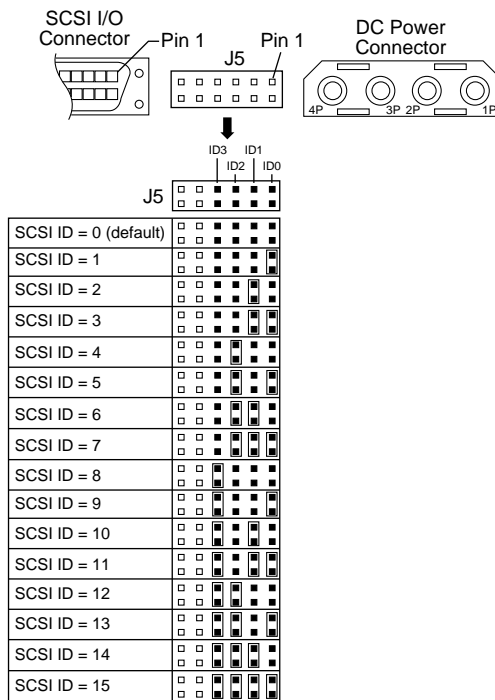

Figure 2. Setting the SCSI ID
Use connector J5 to set the SCSI ID (Figure 2). Most Barracuda disc drives are factory set with the SCSI ID set at 0. To change the SCSI ID, install jumpers on the appropriate pins as shown in the illustration.
3. Verify that you have correctly installed jumpers (see Figures 2, 4, 5, and 6).
3. Stellen Sie sicher, daß die Kennungsbrücken installiert sind. Siehe Abbildung 2, 4, 5, und 6.